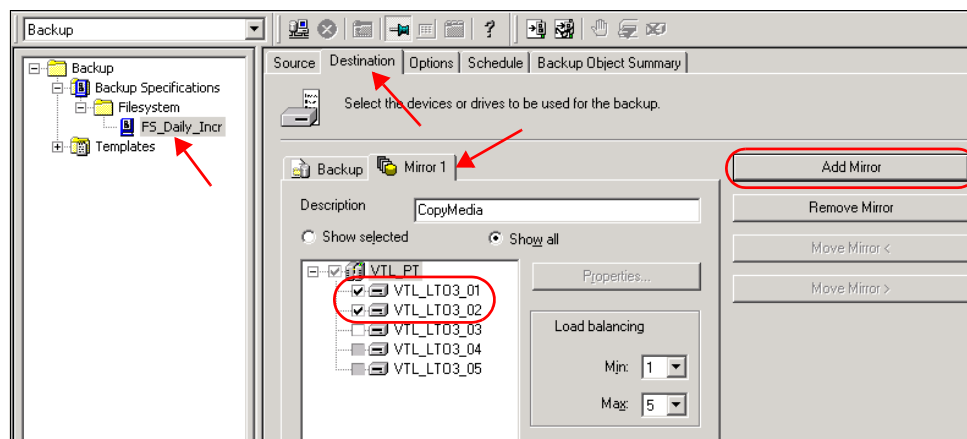

Figure 17-11 Usage of a mirror
Modify the backup policy settings, as shown in Figure 17-11. The figure shows the usage of a mirror. To add the object mirror functionality:
2. Click the **Destination** tab and select the relevant drives. As illustrated in Figure 17-11, from the Mirror 1 tab, we select the VTL_LTO3_01 and VTL_LTO3_02 drives.